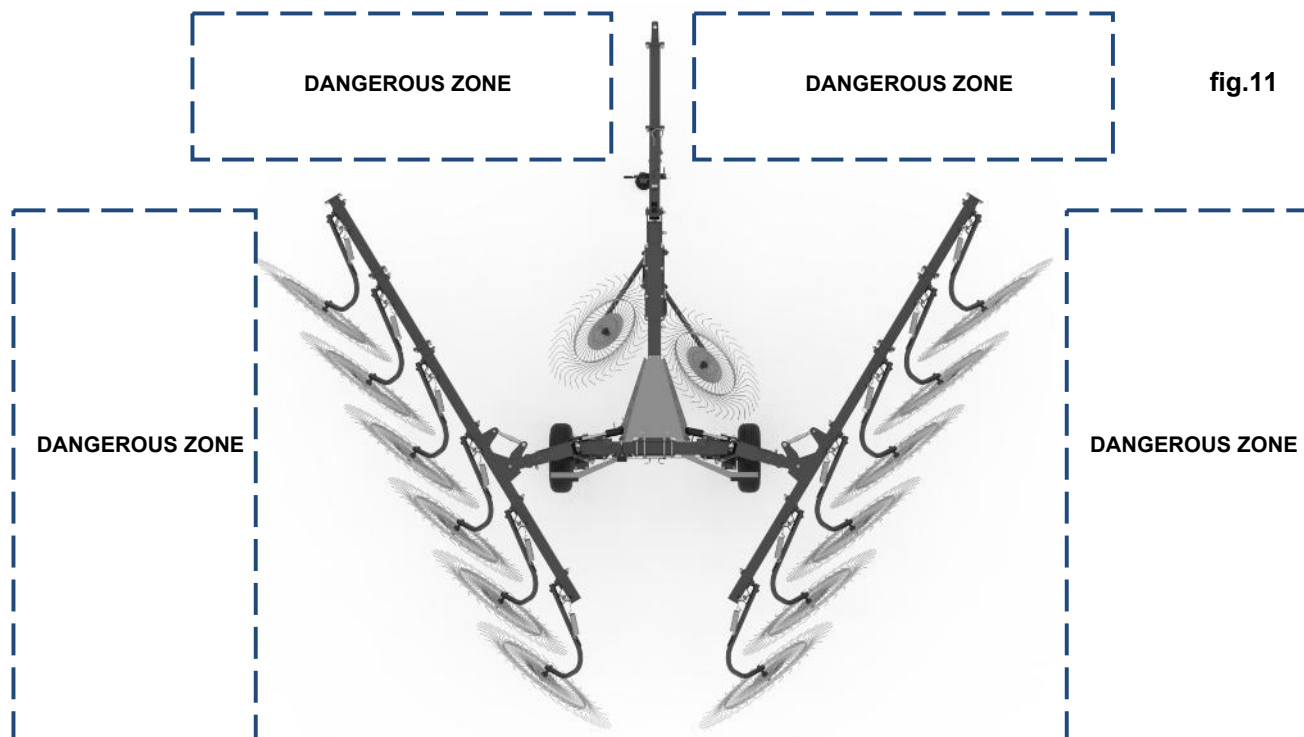

fig.11
- ensure that there are no people or animals in the area between the tractor and the hay rake or in any of the equipment **dangerous areas** (shown in the fig.11), as they may not be aware of possible danger.